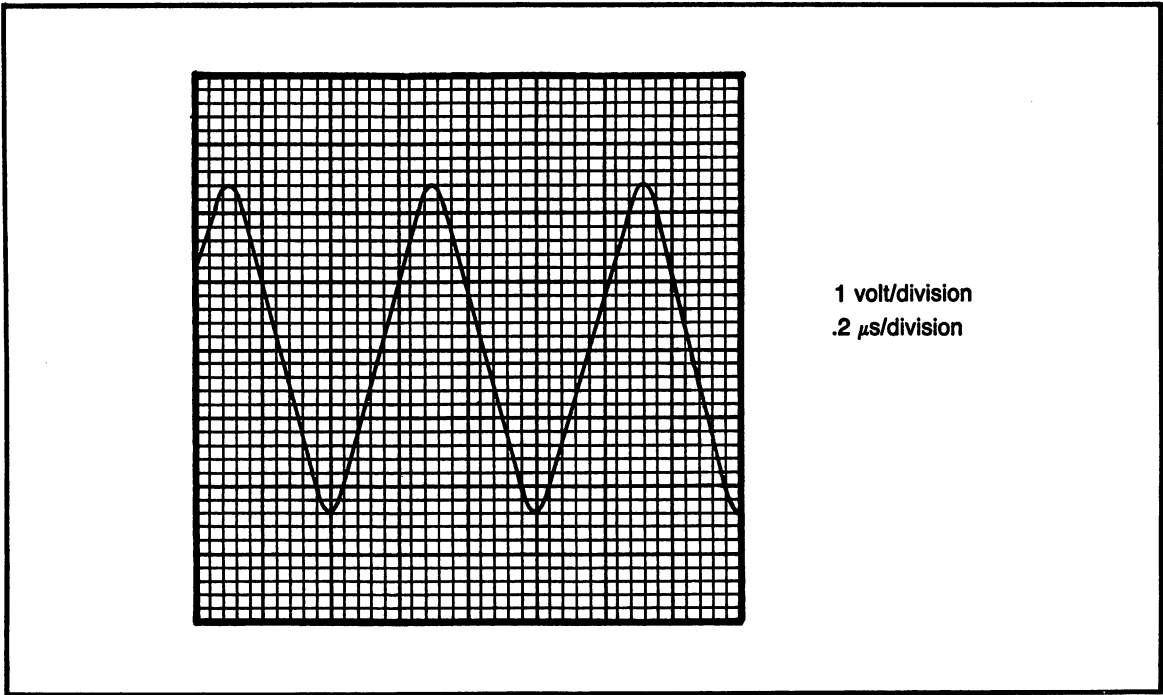

Fig. 11-19. Problem 35: 1 volt/division; .2 μ s/division.
- (35) Figure 11-19; a) p-to-p voltage b) frequency